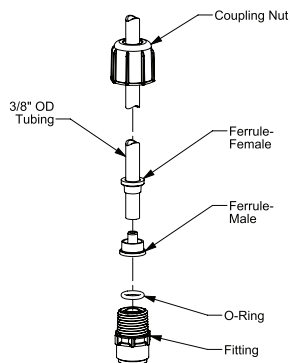

Figure 8: Tubing Connection
2. For 3/8" OD tubing: Position a Female Ferrule about one inch (25 mm) from end of tubing. Orient the raised collar of the Female Ferrule toward the Coupling Nut. Then, insert the Male Ferrule onto the end of the tube, pushing the tube into the bottom of the groove in the Male Ferrule. Then slide the Female Ferrule down the tubing and with your fingers, press tightly into the Male Ferrule (reference FIGURE 8).